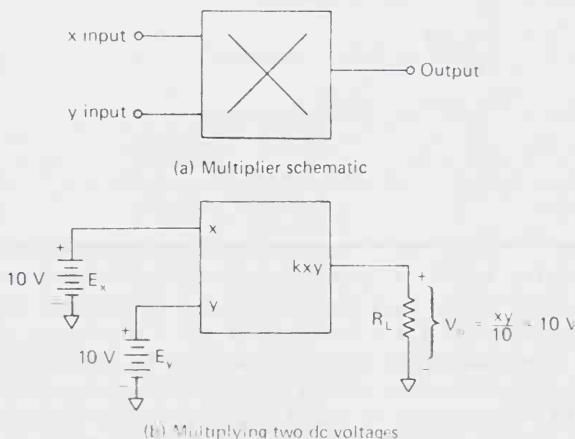

FIGURE 12-1 Introduction to the multiplier.
Analog multipliers are complex arrangements of op amps and other circuit elements now available in either integrated circuit or functional module form. Multipliers are easy to use; some of their applications are (1) measurement of power, (2) frequency doubling and shifting, (3) detecting phase-angle difference between two signals of equal frequency, (4) multiplying two signals, (5) dividing one signal by another, (6) taking the square root of a signal, and (7) squaring a signal. Another use for multipliers is to demonstrate the principles of amplitude modulation and demodulation. The schematic of a typical multiplier is shown in Fig. 12-1(a). There are two input terminals, x and y , which are used for connecting the two voltages to be multiplied. Typical input resistance of each input terminal is $10\text{ k}\Omega$ or greater. One output terminal furnishes about the same current as an op amp to a grounded load (5 to 10 mA). The output voltage equals the product of the input voltages reduced by a scale factor. The *scale factor* is explained in Section 12-1.
The schematic of a multiplier shown in Fig. 12-1(a) may have a \times to symbolize multiplication. Another type of schematic shows the inputs and the output voltage equation, as in Fig. 12-1(b). In general terms, the output voltage V_o is the product of input voltages x and y and is expressed by